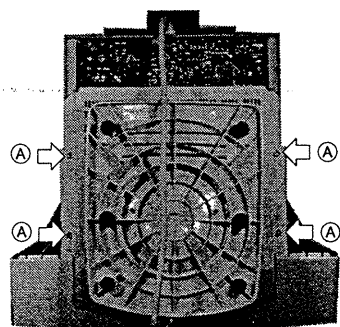

Figure 2-6 Remove the Main Board
- 10 Remove the four screws at the bottom. Refer to the figure 2-6 (A).